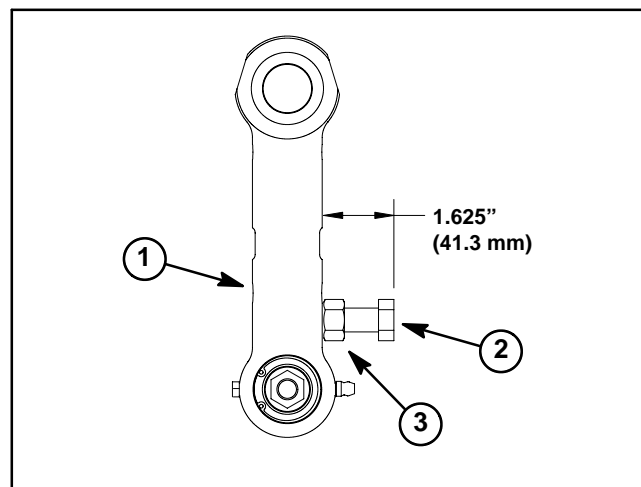

Figure 11
5. If cap screw and jam nut were removed from rear link, install cap screw to allow 1.625" (41.3 mm) between the head of the screw and the side of the link (Fig. 11).